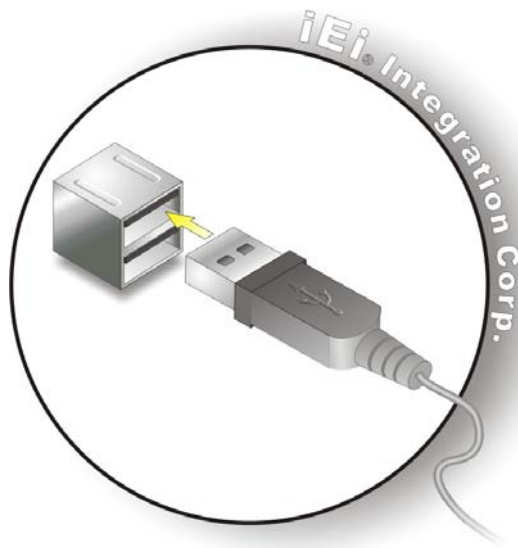

Figure 3-25: USB Device Connection
Step 2: Align the connectors. Align the USB device connector with one of the connectors. See **Figure 3-25**.